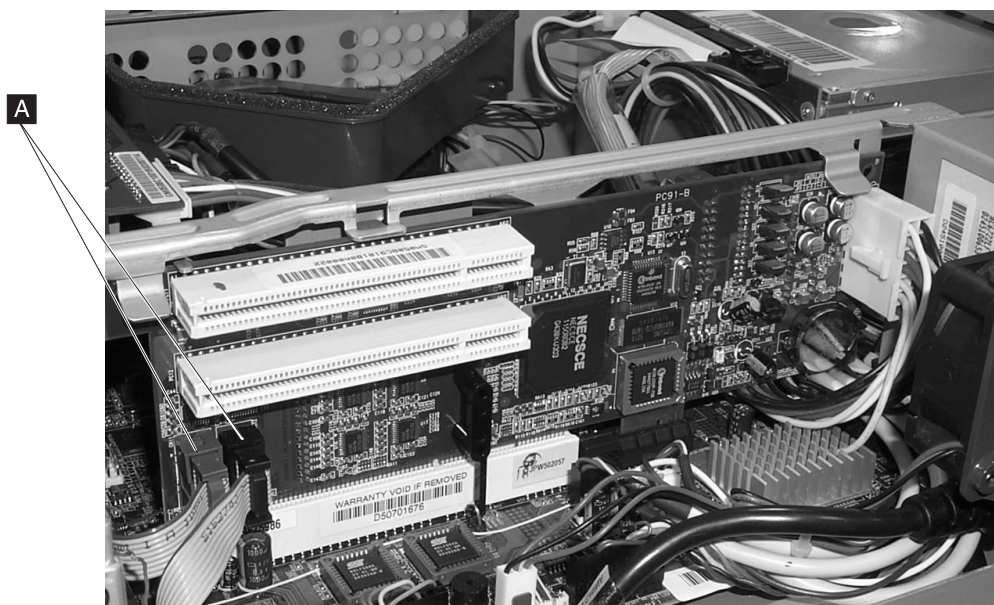

Figure 39. Serial connectors
5. Note the cable routings, and then unplug two serial connectors (if installed) from the left side of the riser card. See **A** in Figure 39.